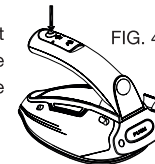

FIG. 4
- Press the steam button (8) to generate a jet of steam that penetrates fabrics to remove stubborn creases. If the LED comes on, wait a few seconds before pressing the steam button again (Figure 4).